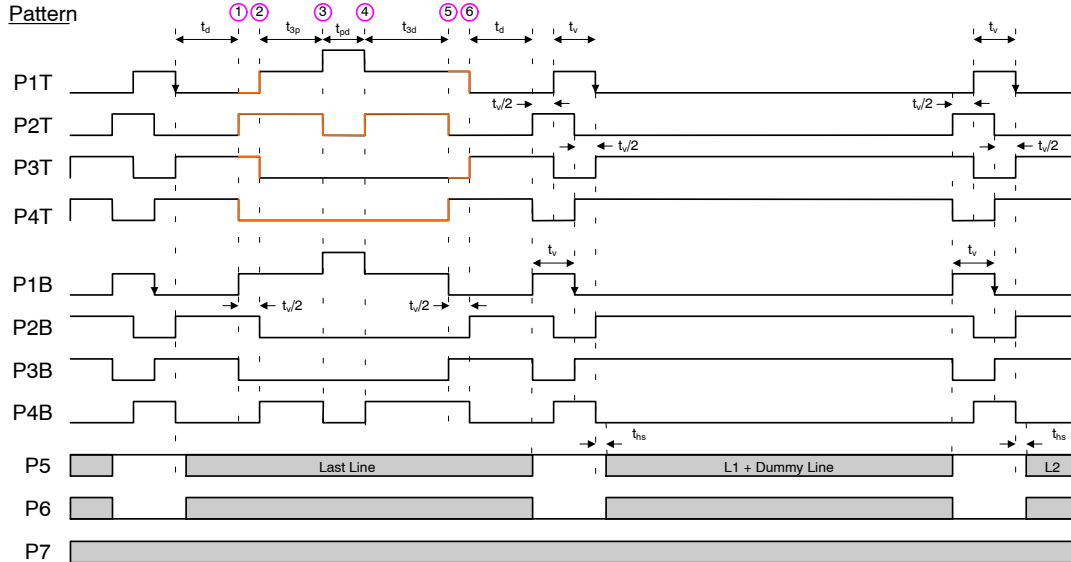

Figure 21. Photodiode Transfer Timing
1. Refer to timing diagrams as shown in Figures 21, 22, 23, 24 and 25.
The timing sequence for the clocked device pins may be represented as one of seven patterns (P1–P7) as shown in the table below. The patterns are defined in Figure 21 and